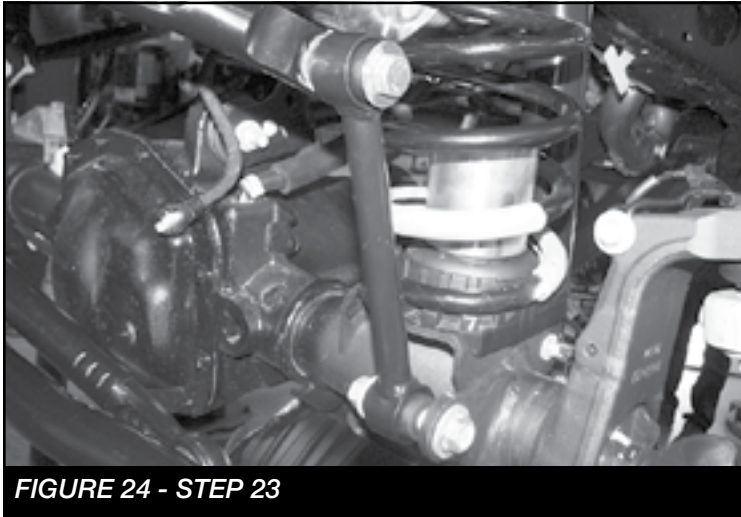

FIGURE 24 - STEP 23
23. Install FT50048 (Bushings) and FT404739 (Sleeves) into FT50026BK (Sway bar links). Then, install the links to the axle mount and sway bar using the supplied M12 x 70mm or M14 (2024 Models) hardware for the upper location and the factory for the lower. Torque to 65 ft-lbs. **SEE FIGURE 24**